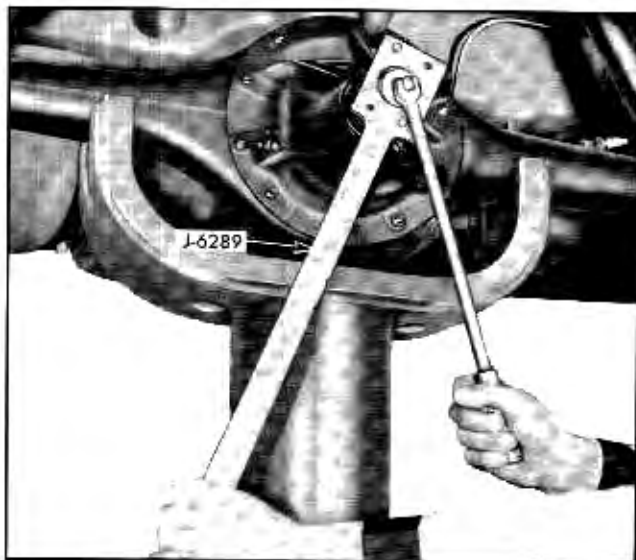
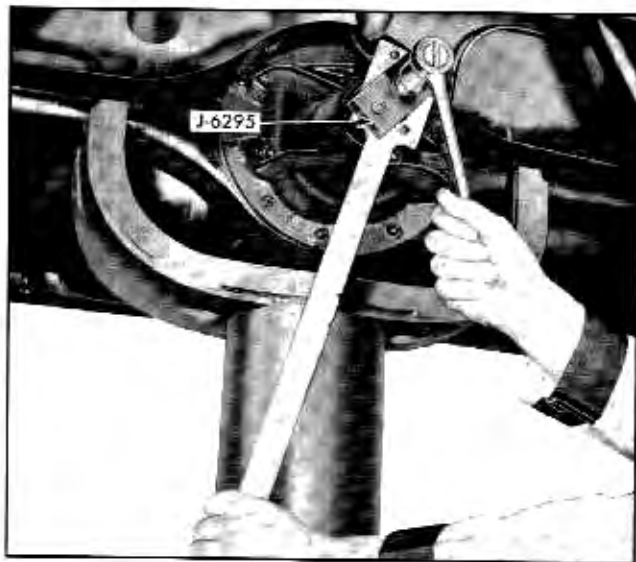

Fig. 4-4 Holding Companion Flange With Holding Tool J-6289
Fig. 4-5 Removing Companion Flange With Puller J-6295
4. Hold companion flange with Holding Tool J-6289 (Fig. 4-4) and remove drive pinion nut and washer using a heavy duty socket.
5. Remove companion flange using Puller J-6295 (Fig. 4-5).
2. Remove drive pinion nut and washer using Holding Tool J-6289 (Fig. 4-4); remove companion flange, using Puller J-6295 (Fig. 4-5).